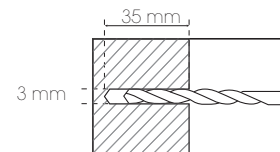

Fig. 3
- If installing into a sound timber structure, use a 3mm drill bit to drill 4 holes 35mm deep. Refer to (Fig. 3)